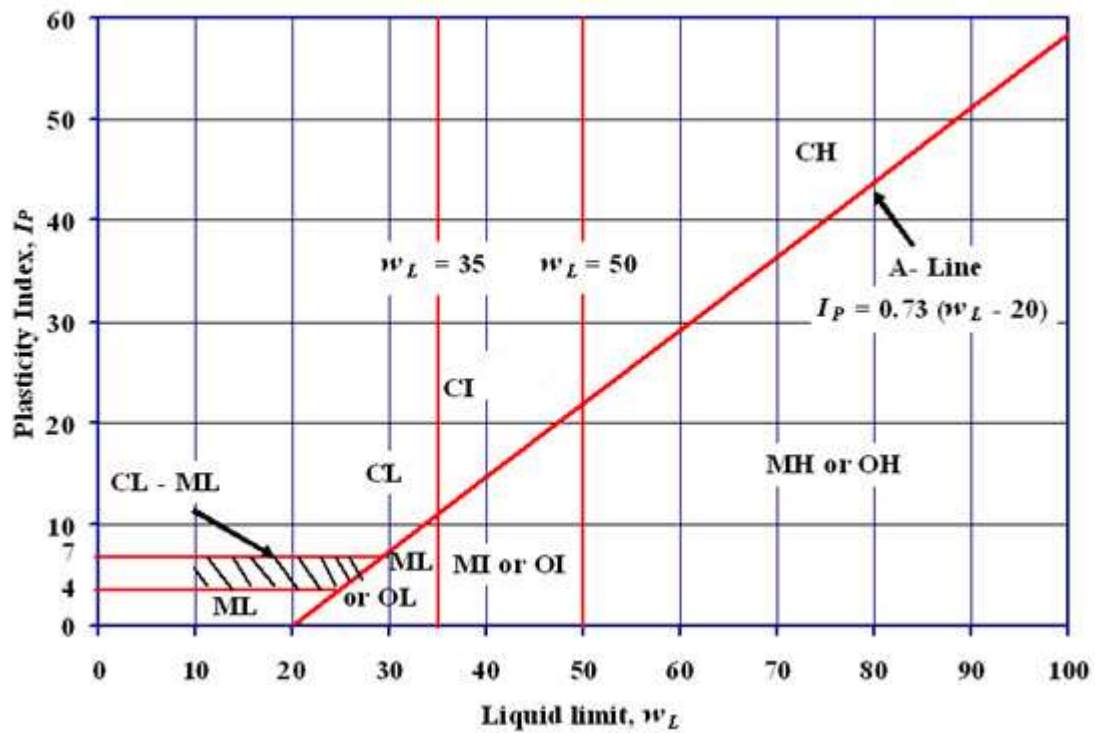

Figure 1: Plasticity chart as per Indian Standard Soil Classification System
- Q.2 (a)** As per the Indian Standard soil classification system, a sample of silty clay with liquid limit of 75% and plasticity index of 45% is classified as? (Refer to Figure 1) **03**